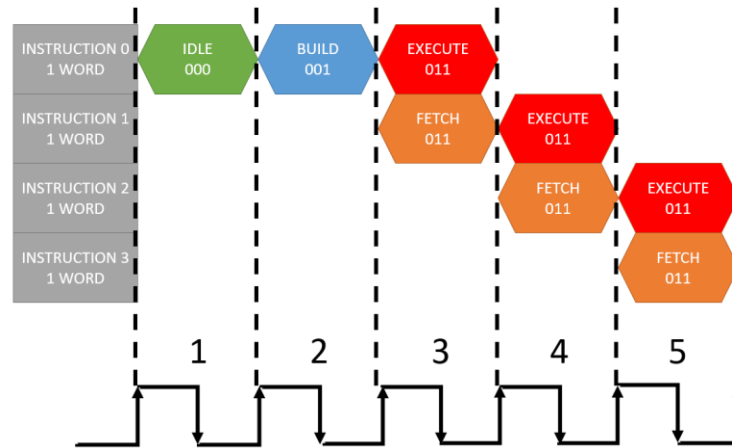
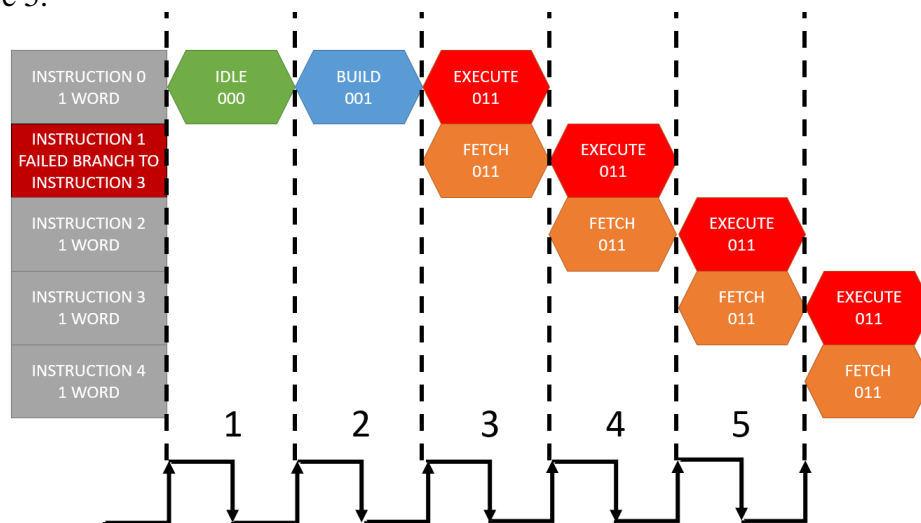

Figure 4: Timing diagram for a sub-program, which does not include branch instruction
Figure 5: Timing diagram for a sub-program, which includes a branch instruction. But the branch condition, if any, is unsatisfied.
- **Idle State (000):** When the processor is first turned on, the state machine will start in the idle state. In this state, processor is off and will not read or operate any instructions. The state machine will continue to be in the idle state until the processor is turned on. The processor is turned on by turning on the master switch located on the FPGA board. When the master switch is turned on, the state machine will remain in the idle state and only move to the build state at the next clock edge. The master switch allows the user to reset the processor and return to the idle state at any point of its operation.
- **Build State (001):** The state machine can only transition to the build state after the master switch SW17 has been turned on in the idle state for one clock cycle. In the build state, the AVR processor fetches the instruction, from the program memory, at the PC address, into the IR. Initially (transition from idle state), the PC will be at zero. No instructions are executed during this step. The PC increments by one at the end of the build state. After this step, the state machine will move to the fetch/execute state, unless the master switch is turned off, then the state machine will return to the idle state. The state machine will never be in the build state for consecutive clock cycles.
- **Fetch/Execute (011):** The state machine will transition to the Fetch/Execute state after the Build state as long as the master switch remains on. In the Fetch/Execute state, the instruction, loaded in the IR, is executed. The CU generates the necessary control signals to allow the data path components to execute the current instruction. In addition, the processor will fetch the next instruction at the updated PC address from the previous state. Depending on the type of the instruction, the next state of the processor will change. Consider the timing diagram shown in Figure 4, which shows the operation as long as the branch instructions, as seen in Figure 1, do not show up.
As seen in Figure 4, at the end of the third clock cycle, instruction 0 has been executed (all necessary registers are updated), and the instruction 1 has shown up in IR. The processor stays in the Fetch/Execute state as long as the current and subsequent instructions are not branch instructions. Now consider a typical timing diagram shown in Figure 5.